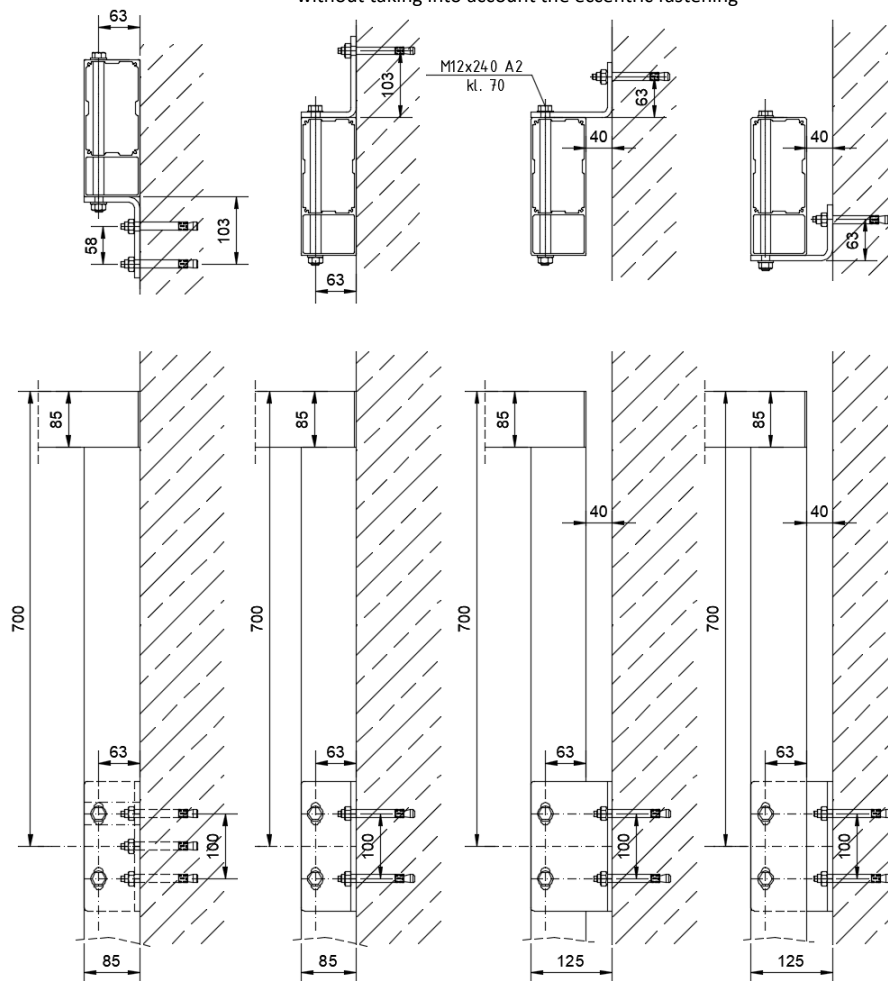

Fig. 62 Shortened wall version (side view and top view)
1. Determine the places for the anchors to fix the brackets on the wall. The pergola's wall beam has vertical holes spaced 100 mm apart for tightening the brackets. They are located approx. 700 mm from the ends of the pergola (fig. 62).
2. Insert the anchors in the substrate according to the selected anchoring system. Install both wall brackets, applying the tightening torques for the anchors according to the manufacturer's recommendations. When setting the bracket as a support without distance, 3 anchors are required - two lower anchors with an axial spacing of 100 mm and the third one above in the middle of the distance (fig. 62 and 57).